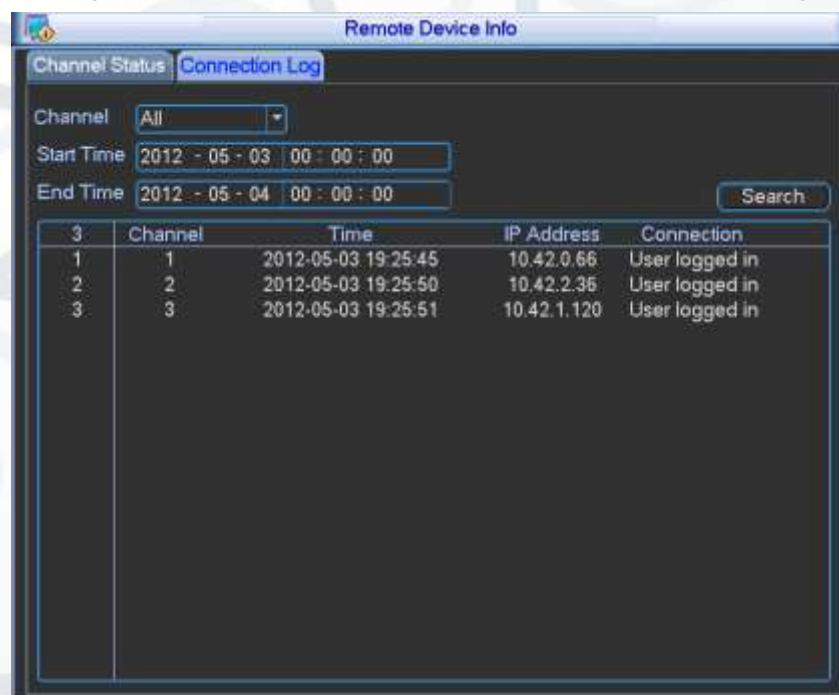

Figure 4-15
- **Connection log:** In this interface, you can search the IPC log information for the corresponding channel. It also includes IPC online, offline, etc. (See Figure 4-15).